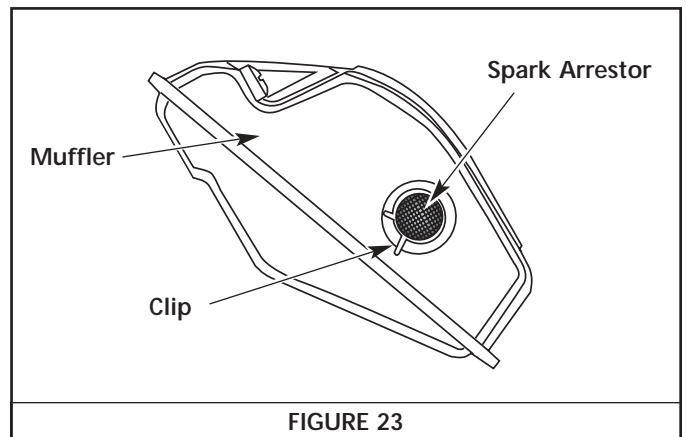

FIGURE 23
2. Using a pair of pliers, remove the clip wrapped tight around the spark arrestor screen. See Figure 23.